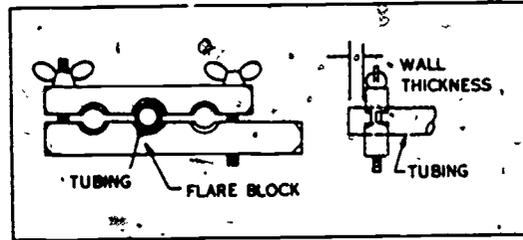
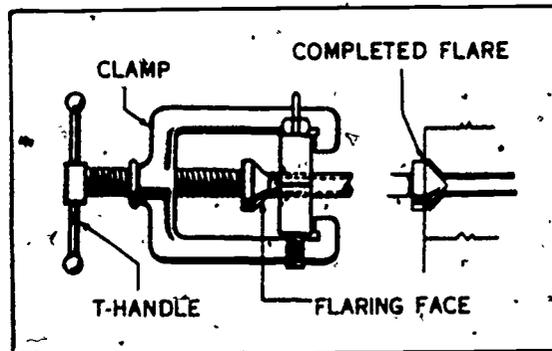

Figure 3-7. Placing tubing in a flaring block.
Figure 3-8. Positioning the clamp and making the flare.
**a. Flaring copper tubing with a flaring block.** Before a flare is made on tubing, slip the compression nut on the tubing and insert the end of the tubing into the correct size hole in the flaring block. Then extend the end of the tubing above the face of the block the wall thickness of the tubing, as shown in figure 3-7. This procedure allows enough tubing to spread over the taper of the fitting. Next, attach the clamp to the flare block and center the flaring face over the end of the tubing, as shown in figure 3-8. Force the flaring face against the flaring block by rotating the handle on the clamp clockwise. This causes the end of the tubing to expand just enough to fit into the compression nut and over the end of the fitting.